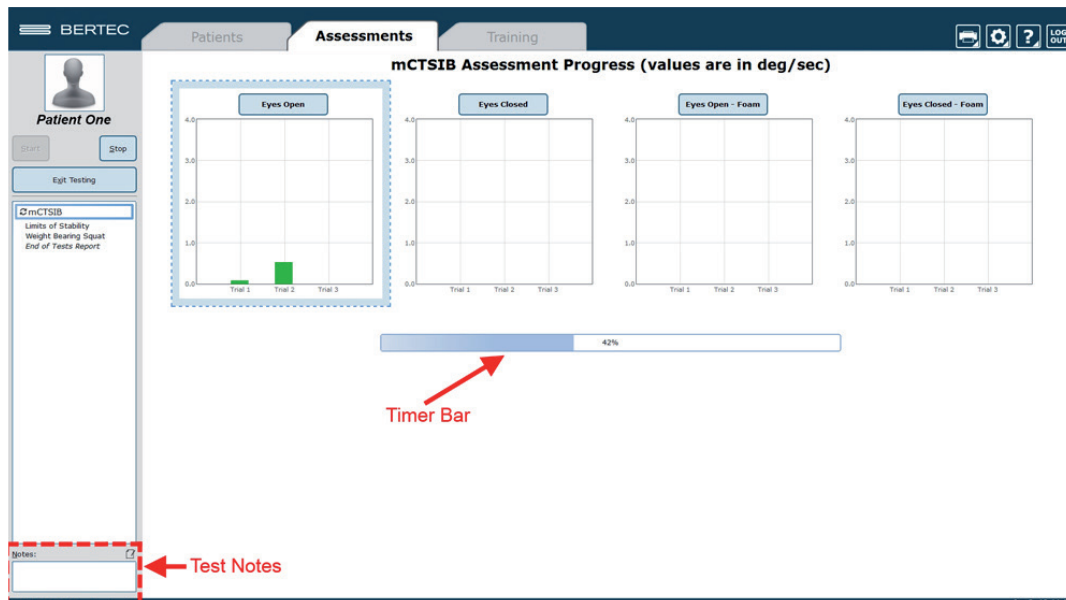

Figure 25: Clinician Screen During Assessment
3. Perform the assessments as directed on the computer screen. At any point during an assessment, the clinician may input notes by clicking in the Test Notes area, located on the bottom left corner of the screen. Figure 25, located on the following page, shows this screen.